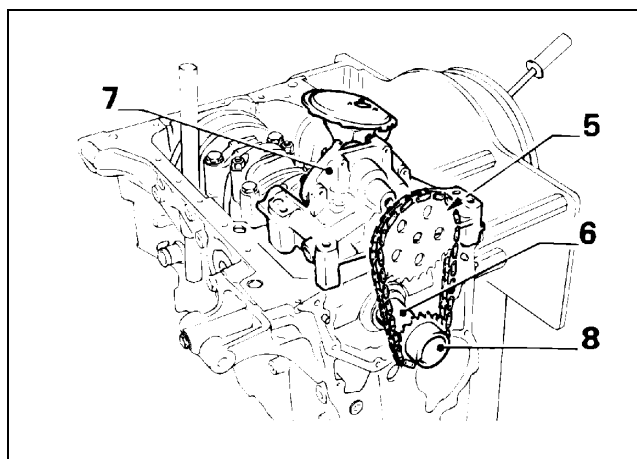

Figure 80
1. Install the key (Fig. 80, Item 6).